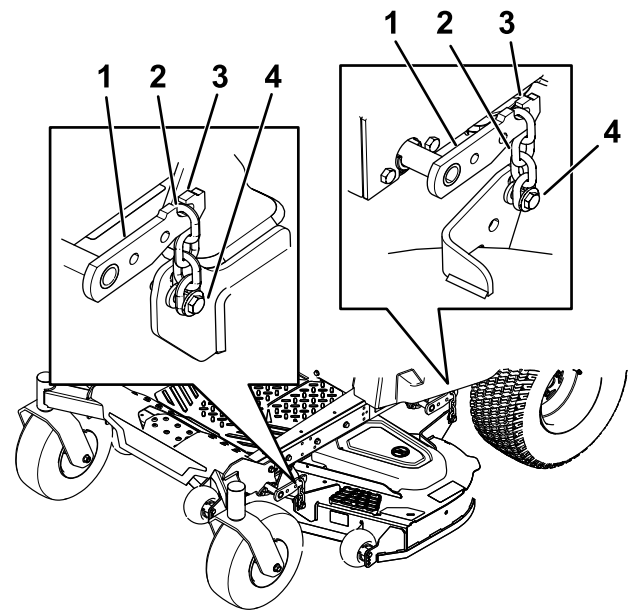

Figure 76
8. Remove the chains from the hooks on the deck-lift arms (Figure 76).
6. Lift the rear of the mower deck and attach the chains to the rear lift arms (Figure 76).
7. Attach the front chains to the front lift arms (Figure 76).